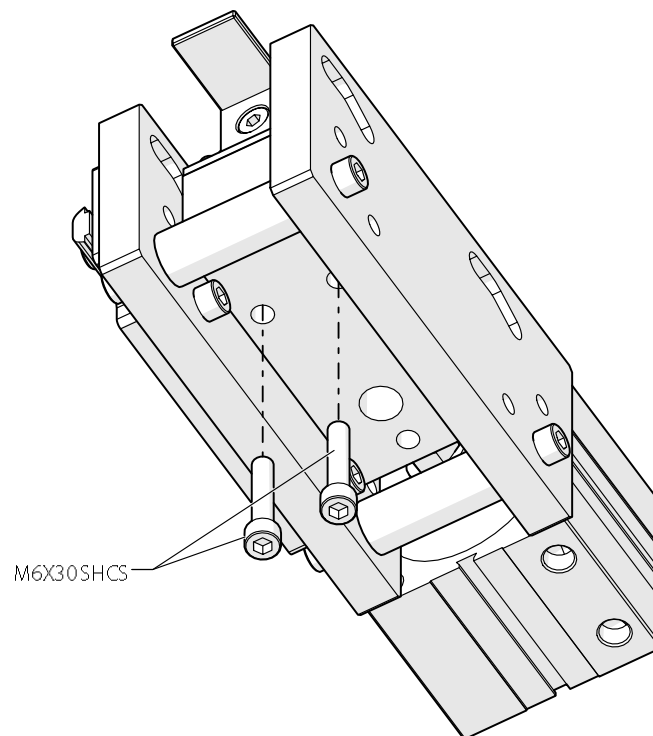

Figure 34: Removing M6X30 SHCS
**Step 1:** Remove M6X30 SHCS as shown in Figure 34.